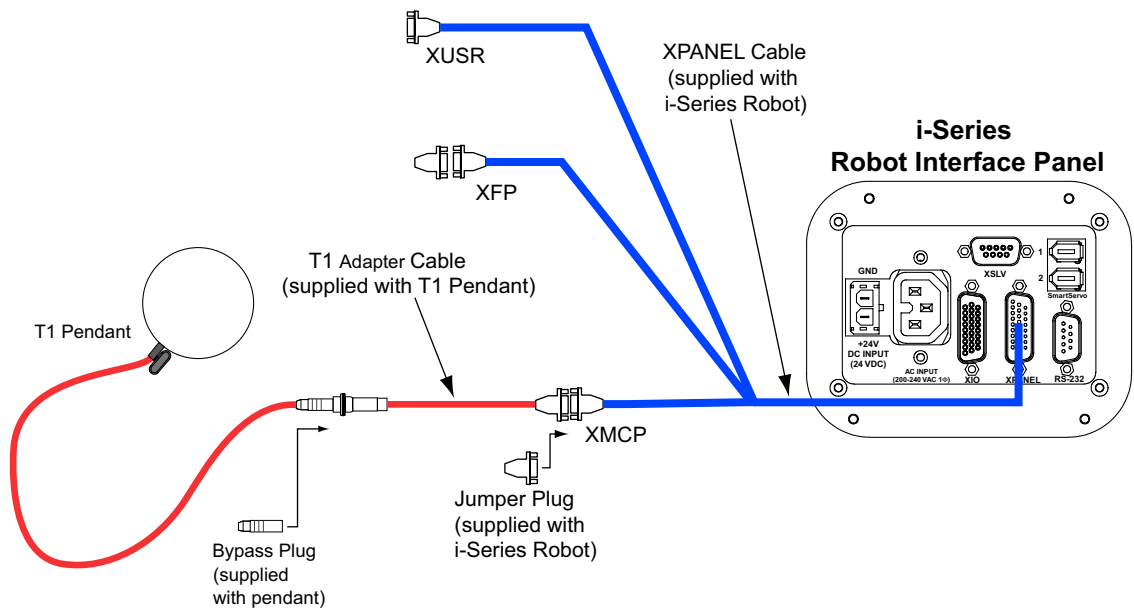

Figure 2-3. Installing Pendant in a Cobra i-Series System
1. Plug in the pendant cable connector to the matching connector on the adapter cable. See Figure 2-3.